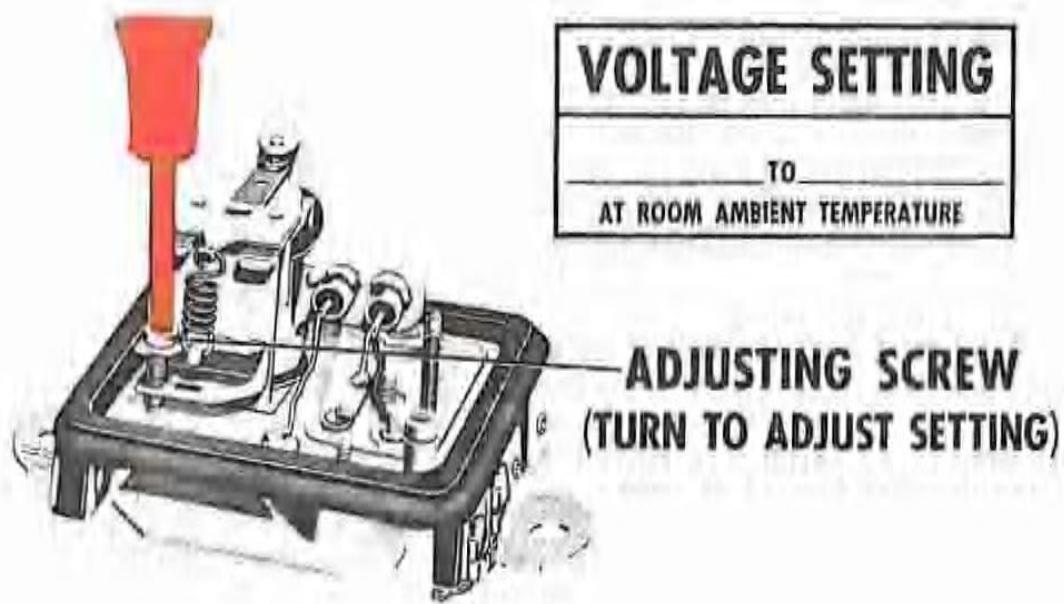

Figure 36
1. To adjust the voltage setting, remove the regulator cover and turn the voltage adjusting screw located on the back of the voltage unit, (Fig. 36).